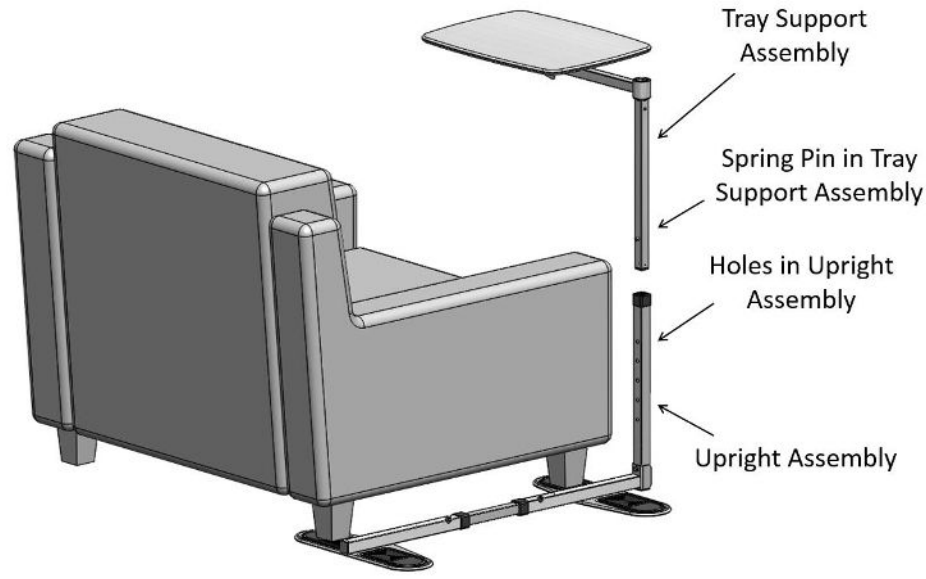

FIGURE 6
6. Depress the Spring Pin in the Tray Support Assembly and slide the Tray Support Assembly into the Upright Assembly. Allow the Spring Pin to engage any of the holes in the Upright Assembly as shown in FIGURE 6.